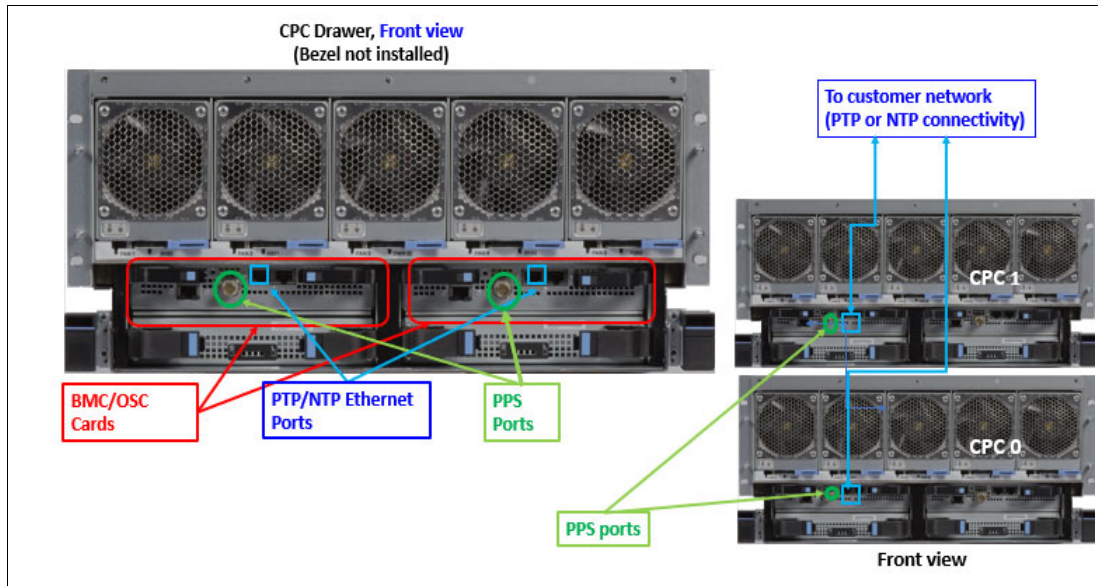

Figure 2-10 Recommended ETS cabling
- ▶ The following PPS plugging rules apply (see Figure 2-10 on page 35):